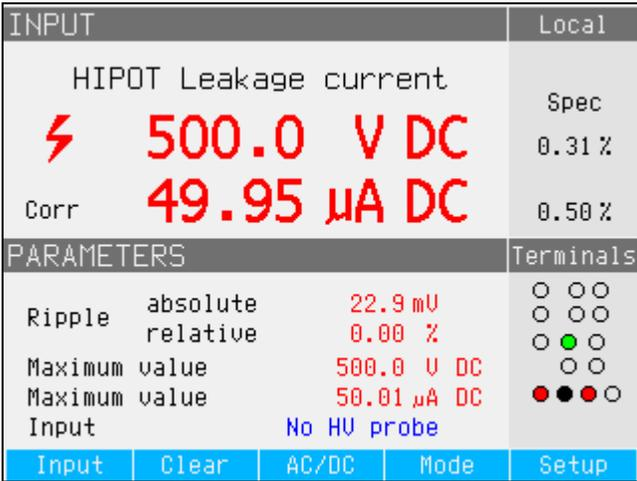

Figure 21. Ripple Current
The HIPOT LC function is for HIPOT tester verification. The Product measures test voltages sourced by a HIPOT tester (DUT) and leakage current using the 5322A LOAD device and the built-in meter. The maximum voltage and current measured are held on the display until the **Clear** softkey is pushed or the main function is changed. See Figures 21 and 23.
3. If necessary, push the **AC/DC** softkey to select between ac or dc mode. See Figure 21.